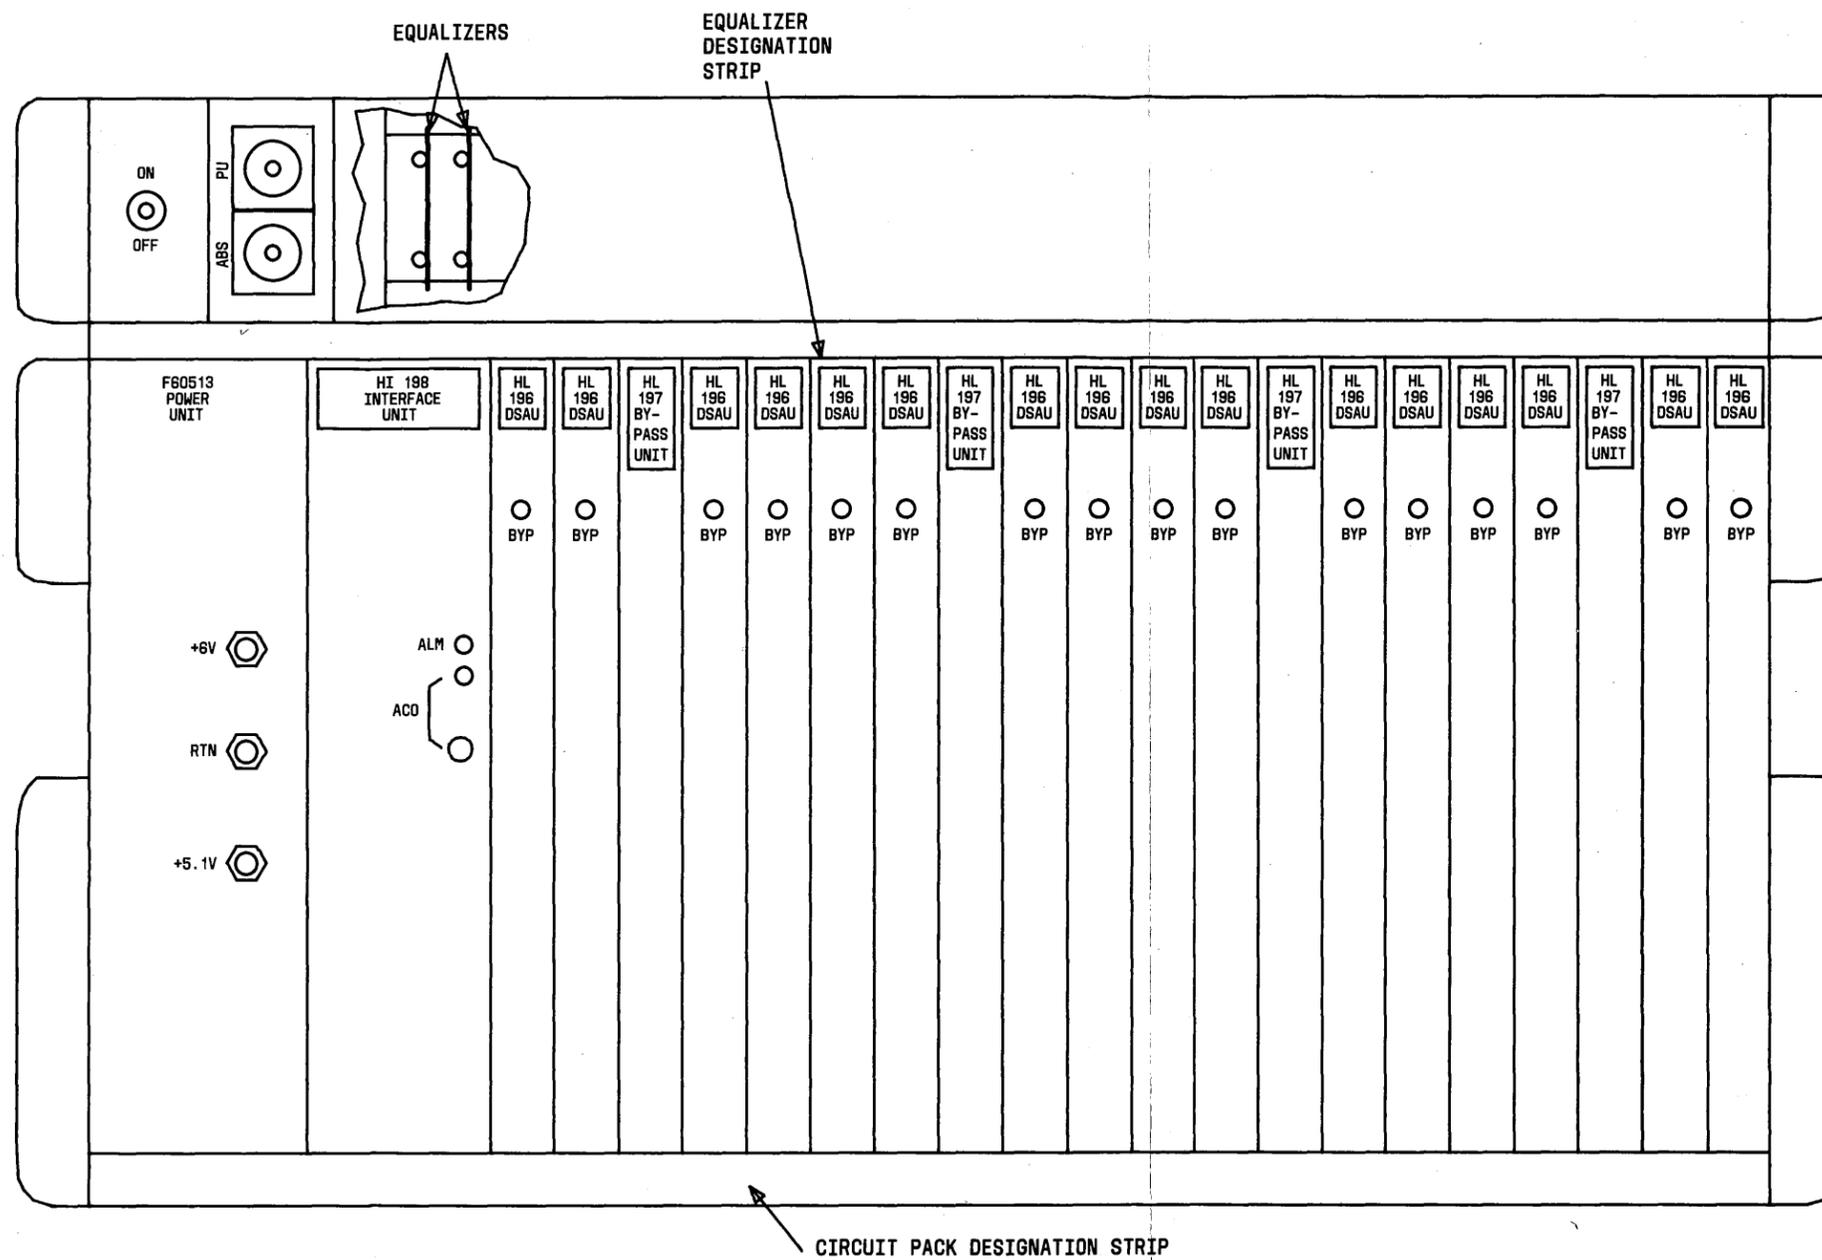

Fig. 2—Front View of a DSAU Shelf Assembly
1.05 DSAUs are housed in shelf assemblies, as shown in Fig. 2, which are capable of providing space for up to 22 CPs. Each bypass unit (BU) in the shelf provides for the independent protection bypass of up to four DS-1 lines through the BU in the event of a DSAU failure. The interface unit (IU) provides for the interchange of information between the DSAU shelf and the KS-21899 data test system allowing any one of the DSAUs in that shelf to be accessed during maintenance and testing. The F60513 power unit (PU) derives the appropriate voltages from the central office power and provides these voltages to all other units in the DSAU shelf. Also provided in a DSAU shelf are equalizers which are required at both outputs of each DSAU to provide proper waveshaping for the transmitted signal.
2.02 The DSAU shelf (Fig. 2) has external dimensions of 11 inches high, 23 inches wide and 11 inches deep, and weighs approximately 25 pounds when fully loaded. The DSAU shelf is designed for mounting in 23-inch frame racks and contains space to house up to 22 CPs plus 30 equalizers.